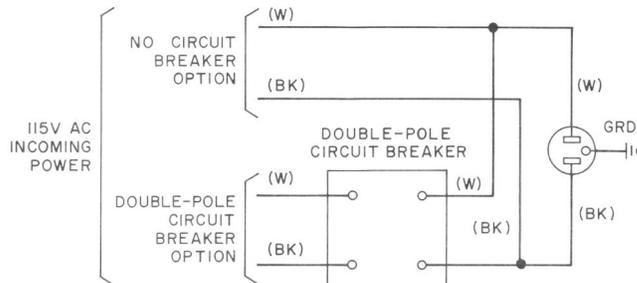

Fig. 23—Power Connections
- 3.17** Refer to Fig. 23 for optional methods of electrical wiring.